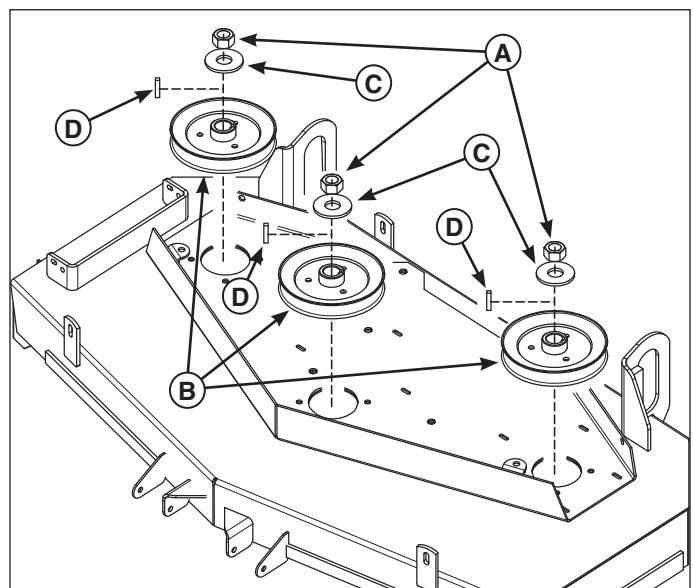

Figure 9. Removing the Spindle Pulleys
1. Insert the existing square key (D, Figure 9) into the shaft for the spindle.
2. Install the spindle pulley (B) with the tall neck facing down, onto the spindle shaft and the square key and secure in place with the washer (C) and the 3/4 hex nut (A). The dome of the washer should be facing up.